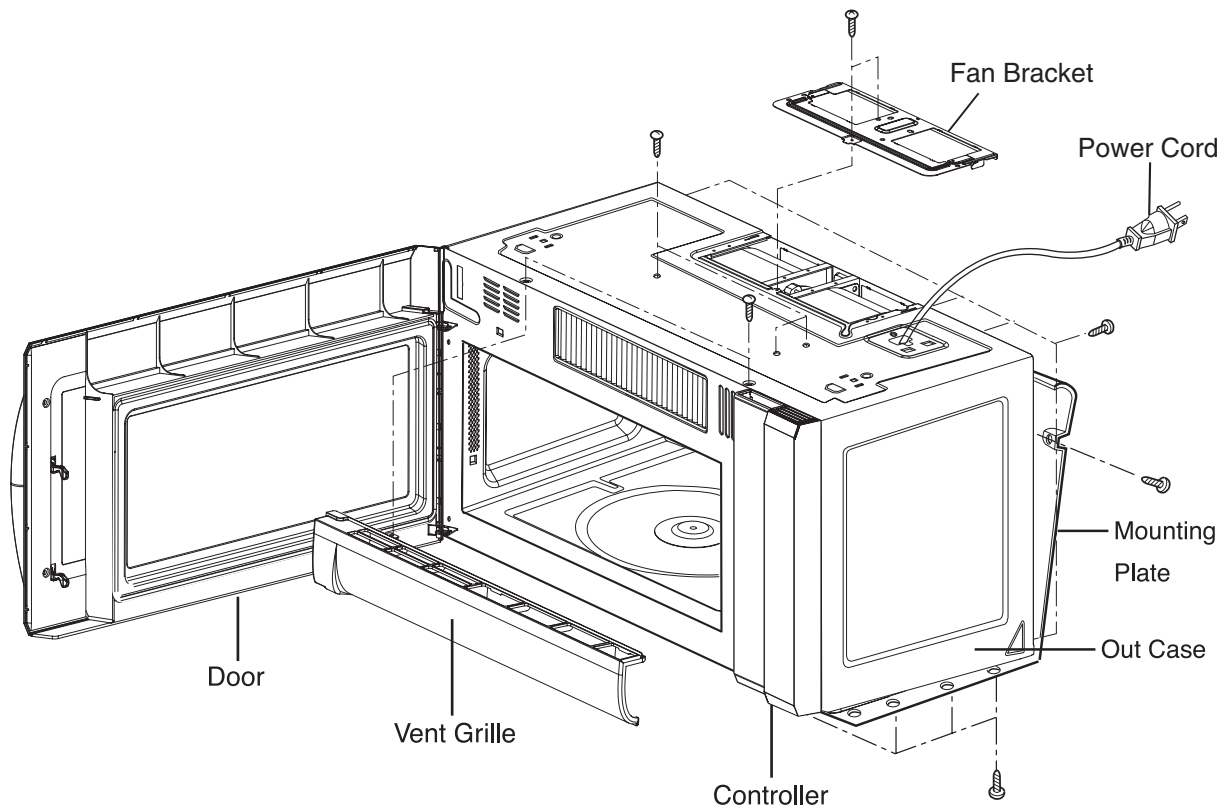

Figure 8
B. REMOVING THE OUT CASE(Figure 8)
- (1) Remove the vent grille by removing one screw securing it to the outer case.
- (2) Remove three screws securing it to the air duct.
- (3) Remove one screw securing it to the front cavity.
- (4) Remove the mounting plate by turning two screwssecuring it to the outer case.
- (5) Remove three screws on the left central edge and three screws on the right central edge of the base plate.
- (6) Remove the fan bracket from the outer case by removing one screw securing it to the outer case and removing one screw securing it to the motor.
- (7) Remove four screws of the rear cavity.
- (8) Remove the power cord cover by remove one screw securing it to the outer case.
- (9) Remove the outer case with disconnecting power cord connector.